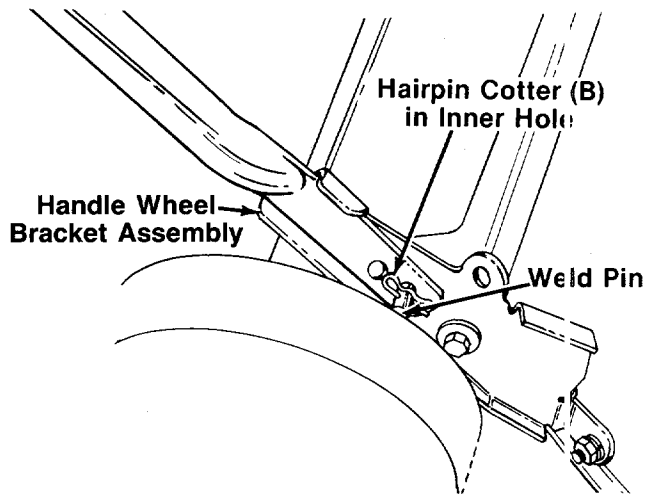

FIGURE 2.
3. Attach the lower handle by placing the bottom holes in the lower handle over the weld pins on the handle wheel bracket assemblies. Make certain the instruction label on the lower handle can be read from the operating position. Secure with hairpin cotters (B) in inner holes on weld pins. See figure 2.